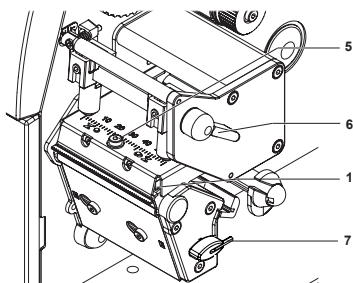

Fig. 2
2. Swing lever (6) in the position shown in fig. 2. The printhead assembly is locked in this position.
3. Loosen the printhead locking screw (5). Use the allen key (7).
4. Swing the lever (6) counterclockwise until it stops. So you can unlock and lift the printhead assembly.
5. Remove the printhead (1) from the printhead carriage.
9. Swing the lever (6) again into the position shown in figure 2. Look at the correct position of the printhead!
10. Put in and tighten the locking screw (5) completely.